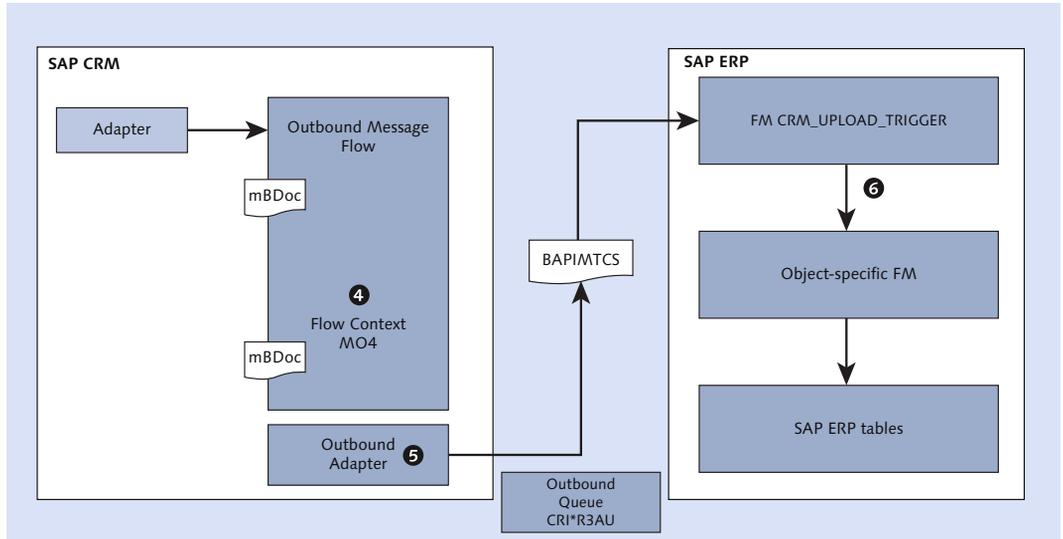

Figure 3.27 Data Flow from SAP CRM to SAP ERP
- 4 As shown in Figure 3.27, the flow context MO4 consists of validation services for the initial load from SAP CRM to the SAP ERP system. The concept is similar to the load from SAP ERP to SAP CRM. In this case, we see reverse logic. After the validation service validates the data extracted, this data is then passed to the SAP ERP (R/3) outbound adapter. Validation services are the function modules assigned to the flow context MO4 as shown in Figure 3.28.